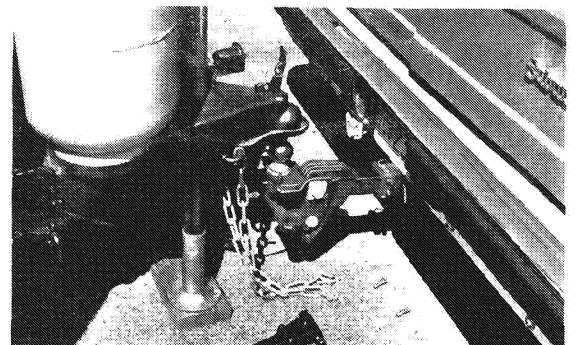

Fig. 2 - Hitching Up
**STEPS FOR HITCHING UP.** Jack up the trailer hitch until there is clearance for the HITCH BALL to slide under, remove safety pin and raise the LOCKING LEVER. Back the car straight back to the hitch. (See Fig.2) This can best be accomplished through the use of prearranged hand signals with the help of another person, but if you are hitching up by yourself we recommend the use of a HOOK-UP VIEW MIRROR.